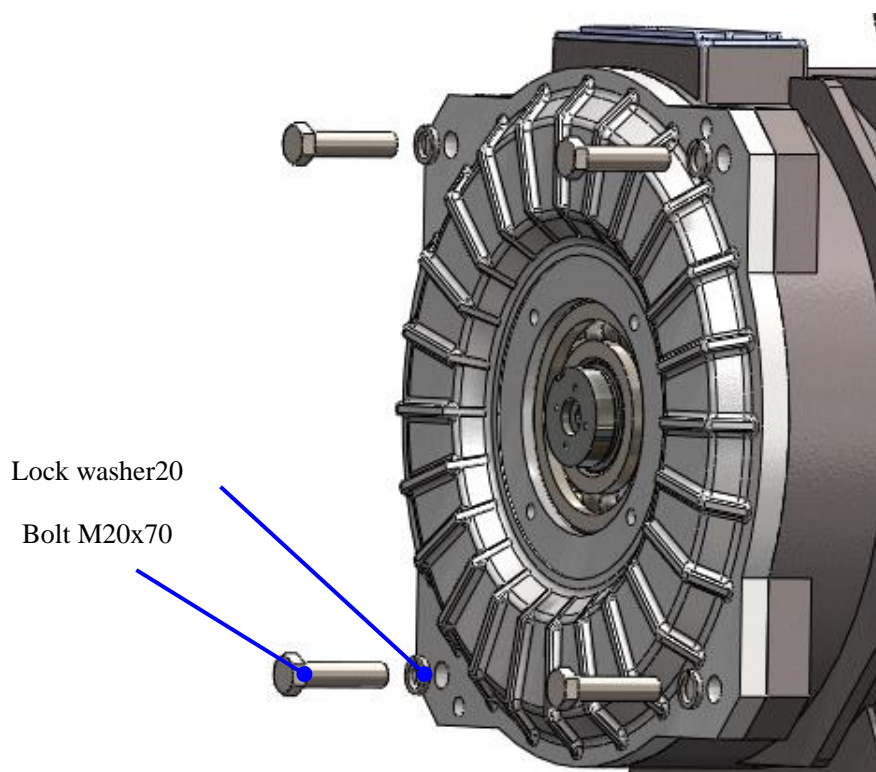

Figure 97: Remove M20x70 bolt and lockwasher20
4. Loosen the bolt M20x70 (4 pieces) and lockwasher20 with the end wrench, screw a pair of double end studs (M20x150) into the thread holes opposite each other. See Figures 97 and 98.